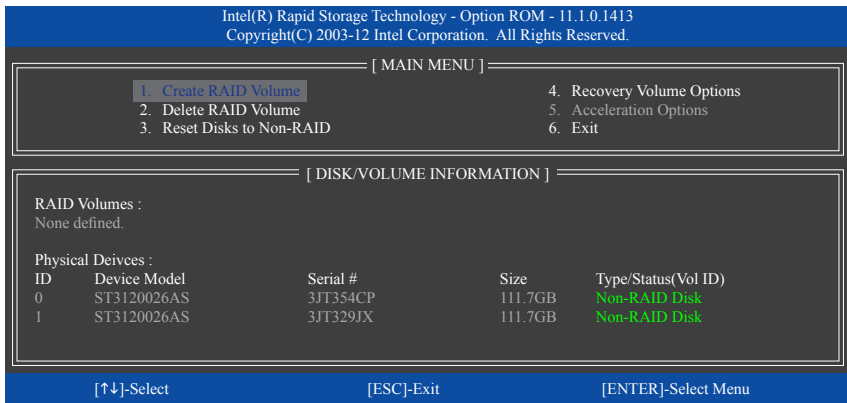

Figure 3
After you press <Ctrl> + , the **MAIN MENU** screen will appear (Figure 3).
Insert the floppy disk containing the SATA RAID/AHCI driver and press <Enter>. Then a controller menu similar to that in Figure 3 will appear. Select **Intel(R) Desktop/Workstation/Server Express Chipset SATA RAID Controller** and press <Enter>. For AHCI mode, use the up arrow key on the keyboard to scroll to the **Intel(R) Desktop/Workstation/Server Express Chipset SATA AHCI Controller** item and press <Enter>.